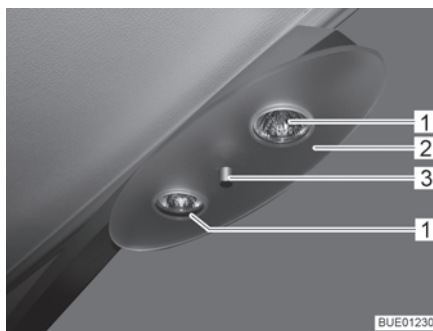

Fig. 189 Halogen ceiling lamp
- Unscrew retaining nut (Fig. 189,3) and remove cover plate (Fig. 189,2).
- Remove halogen bulb (Fig. 189,1).